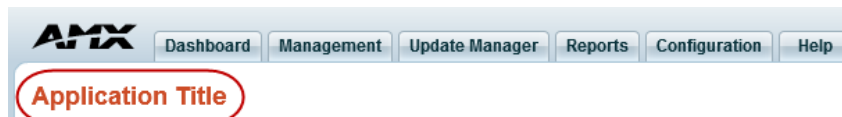

FIG. 343 Application Title
3. Click the **Back to Dashboard** button to refresh the application window to display the new Application Title (FIG. 343):